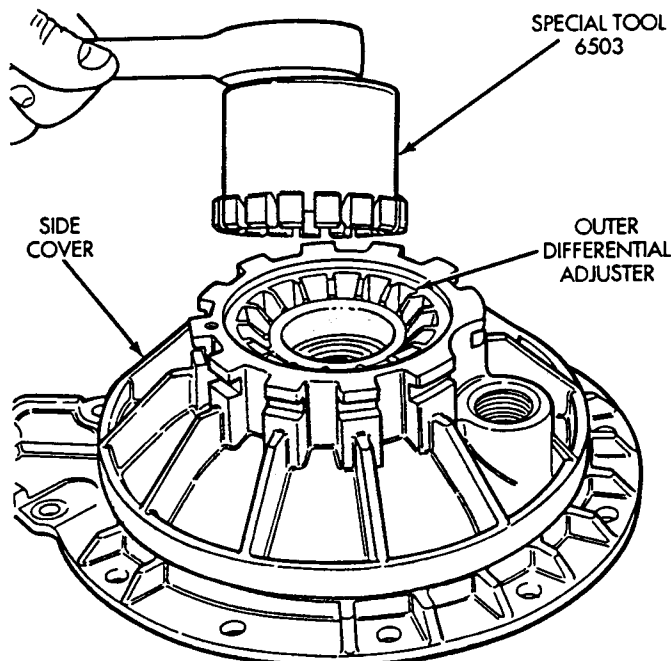

Fig. 14 Outer Adjuster Removal
(15) Remove outer adjuster with special tool 6503 (Fig. 14).